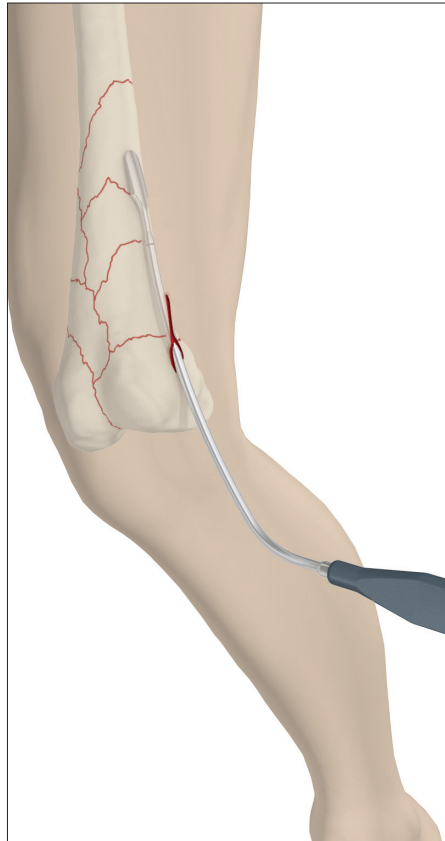

Fig. 8
The soft tissue elevator (ref 702782) has been designed to create a pathway for the plate (fig. 8). The plate has a special rounded and tapered end, which further allows for smooth insertion under the soft tissue.